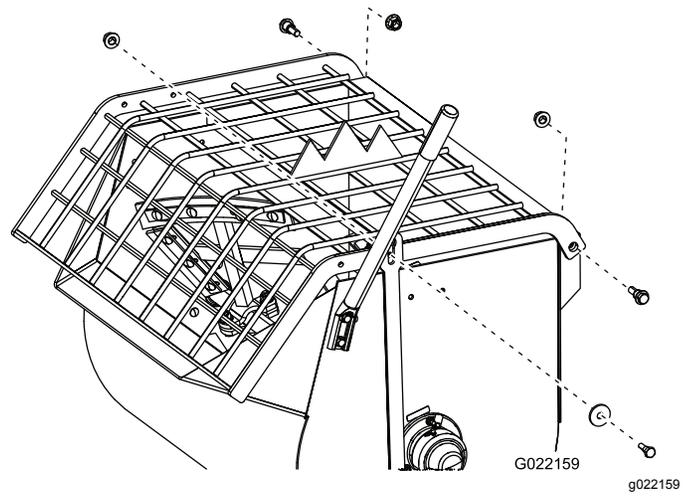

Figure 39
3. Remove the nuts and bolts that secure the grate to the drum, and remove the grate (Figure 39, Figure 40, or Figure 41).